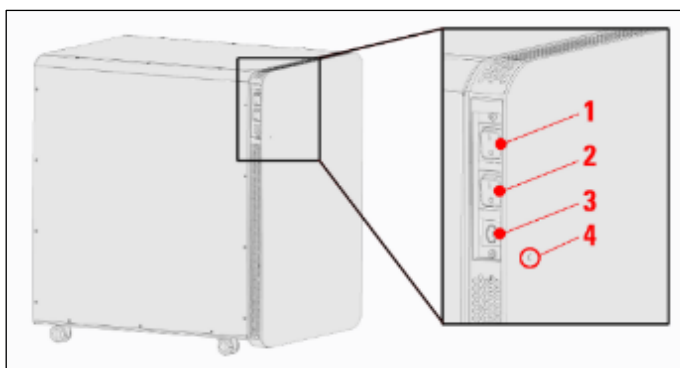

Figure 55: Supply unit
8. To switch off the lasers in the supply unit, activate the detachable-key switch (see Figure 55, position 3). The emission warning indicator (Figure 55, position 4) goes out.
9. Switch off the power supply of the lasers (Figure 55, position 2).
10. Switch off the supply unit (Figure 55, position 1). The power supplies and cooling of the system have now been switched off. The external cooling (chiller) keeps running for a while and switches off automatically.